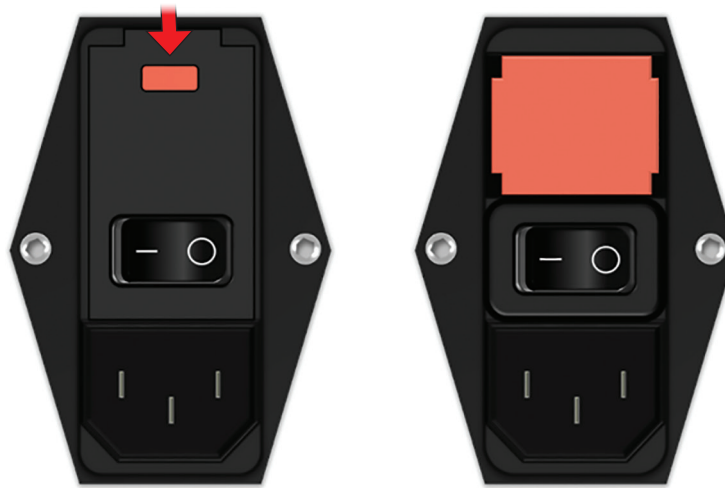

Figure 13.4.1: Power Entry/Switch Fuse Module for Fuse Replacement
The fuses are located in the fuse-holder inside the Power Entry/Switch/Fuse Module located in the back of the Generator. See Figure 13.4.1 below.
3. Open the cover of the Power Entry/Switch/Fuse Module using a flat-bladed screwdriver in the top slots to pry open the cover as illustrated in Figure 13.4.1.